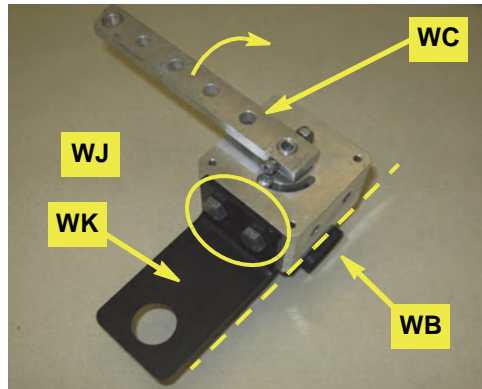

Figure 2a: WAS assembly on mounting bracket
- a. Using hardware **WJ** mount the WAS assembly from step 1 on the outer face of bracket **WK**. Mount the WAS assembly with the base of wire connector **WB** flush with the bend in **WK** and connector arm **WC** arcing away from the long side of **WK** (Figure 2a).